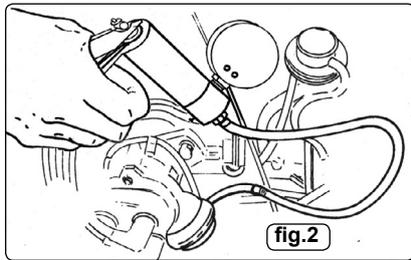

fig.2
- 5.3.3. The second method is **Vacuum Advance**, which senses engine load via manifold vacuum. A vacuum diaphragm is mounted onto the distributor and connected to a rotating internal base plate which advances or retards timing as required to suit varying engine loads. To test this system for correct operation, again with the timing light connected, raise the engine RPM and check timing advance against manufacturer specifications. In the event that the vacuum advance is not operating, remove the vacuum line from the distributor advance mechanism. Connect the vacuum tester (fig.2) and create a 5-10inHg vacuum, monitoring the timing at the same time. If a timing advance is noted this confirms that the vacuum diaphragm and mechanical links are in order and that the fault is a vacuum supply. To confirm this, connect the vacuum tester to the vacuum supply line and check the gauge reading. No vacuum should be noted at idle but when the engine RPM is increased a vacuum increase should be observed. If this does not occur, trace the vacuum line back checking for restrictions and breaks.